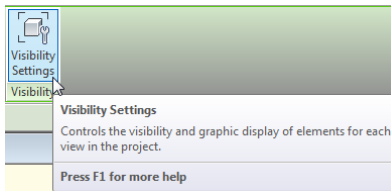

Figure 39
3. In Edit Group mode, select the nested shelf family instance onscreen. On the Modify | Generic Models tab, click the **Visibility Settings** button (see Figure 39).